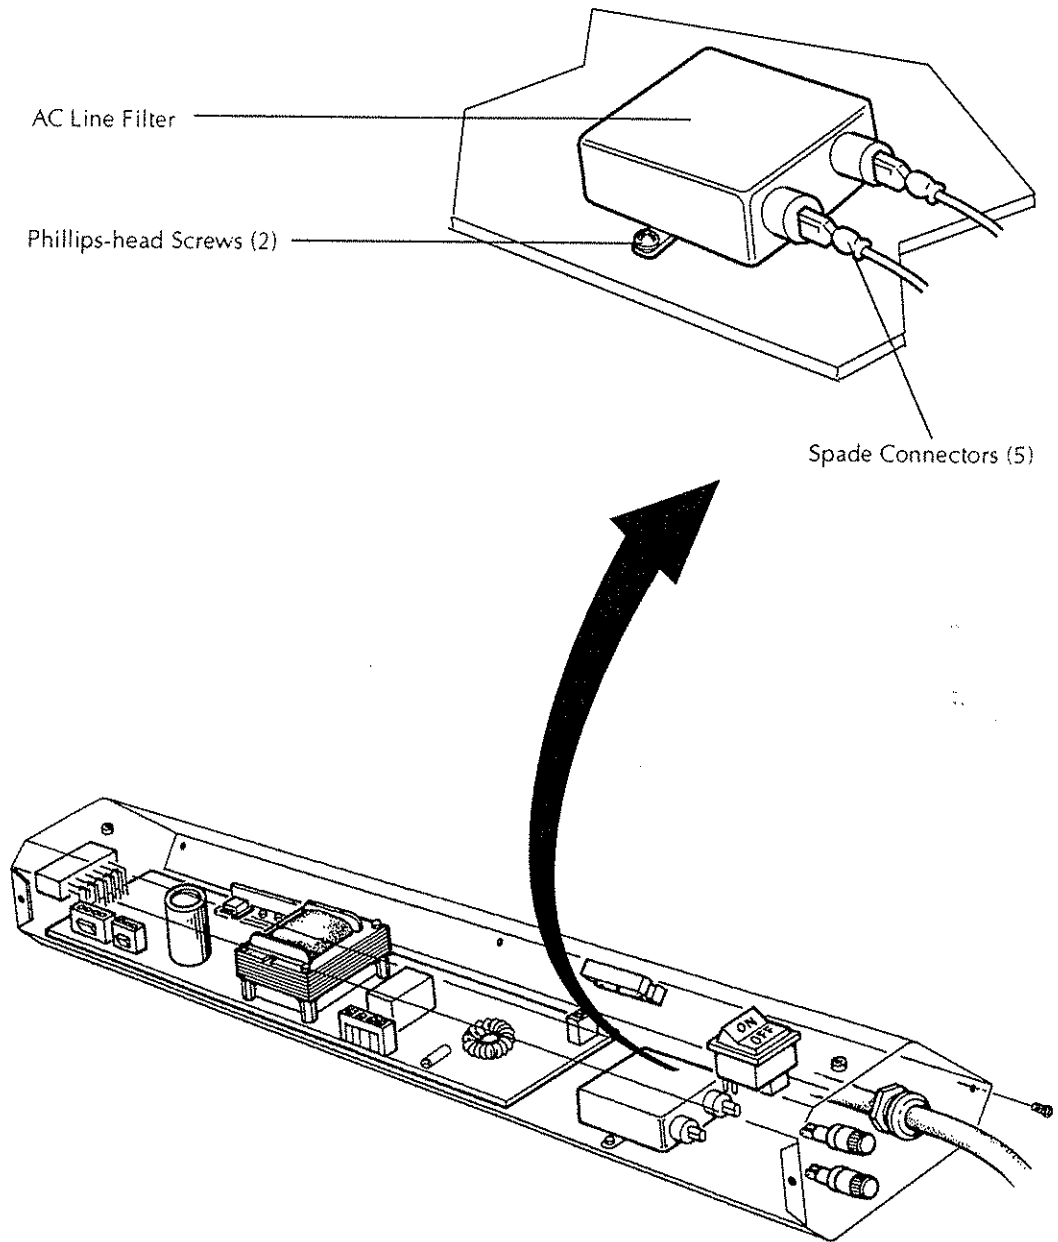

Figure 5-5: Replacing the AC Line Filter
2. Label and disconnect the five wires (spade connectors) from the AC line filter. See Figure 5-5.
3. Remove the two Phillips-head screws securing the AC line filter to the relay box. See Figure 5-5.